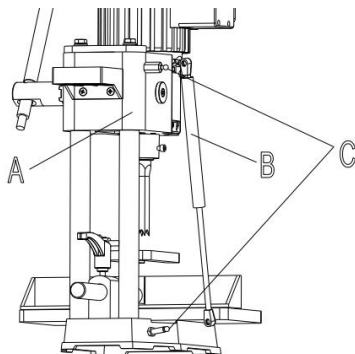

Fig. 4
3. Make sure head (A) Fig.4, is held in the up position and assemble the gas spring (B) to the two fittings (C), one located on the column and the other on the back of the head.